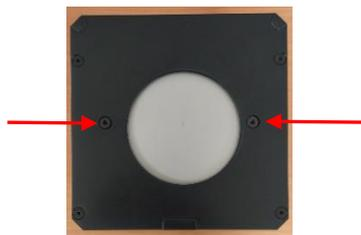

Figure 3: Beam Dump Locking Screws on the Bottom of the Unit
1. BeamPeek ships with two M6 hex locking screws at the bottom of the unit (Figure 3). These secure the beam dump during transportation and must be removed before first use. After screw removal, the beam dump remains secured by the quick-release pins, found on both sides of the device.